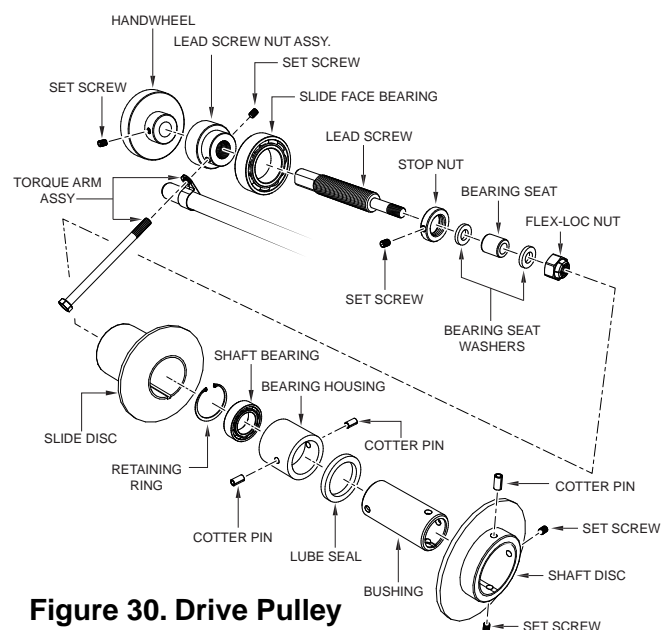

Figure 30. Drive Pulley Components
1. Remove the handwheel (Figure 30) from the **leadscrew**. Screw in the leadscrew until the **front disc** comes off the **shaft**.